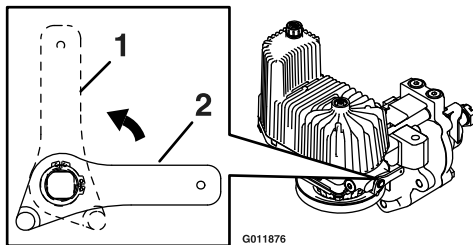

Figure 10
During normal operating conditions, the drive wheel release valves are positioned horizontally. If the machine has to be pushed by hand, the valves must be in the “released” position (see Figure 10).
To release the drive system (see item 1 in Figure 10), rotate the handle 1/4 turn to the vertical position until it hits against the stop.
To reset the drive system (see item 2 in Figure 10), rotate the handle 1/4 turn to the horizontal position until it hits against the stop.